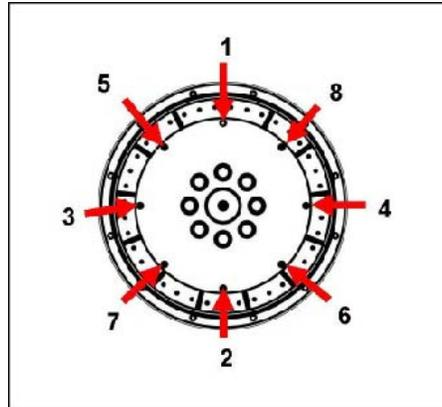

FIGURE 66. FIXING SEQUENCE
10. Tighten the bolts to fix the coupling disc to the flywheel, in the sequence shown in Figure 66 on page 114.